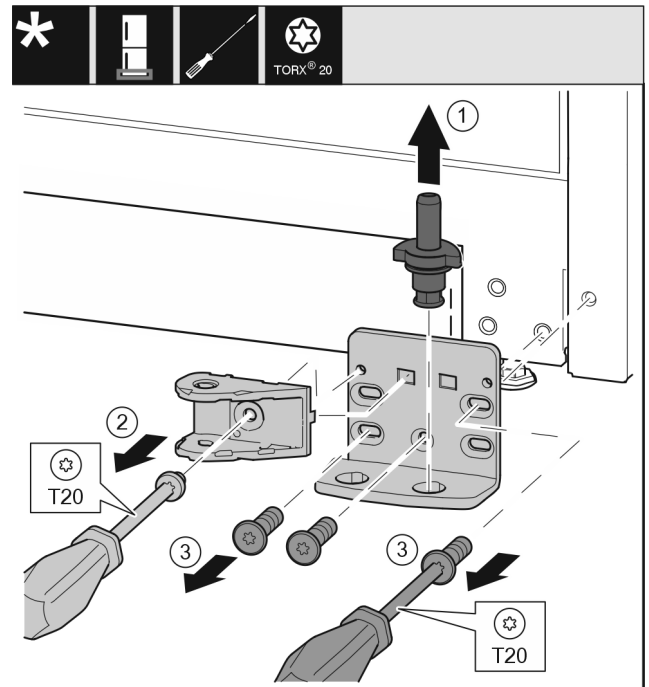

Fig. 32 *
- ▶ Completely pull out the bearing pin Fig. 32 (1) upward.*
- ▶ Use a screwdriver to unscrew the screw Fig. 32 (2) and remove the closing damper connection.
- ▶ Use a screwdriver to unscrew the screws Fig. 32 (3) and remove the swap bearing block.*